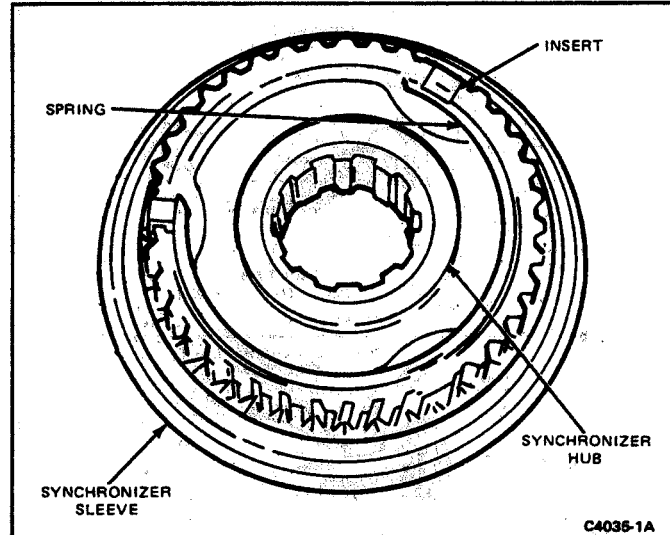

FIG. 19 Synchronizer Hub and Sleeve Assembly
2. Place the three inserts in the hub slots (Fig. 19).